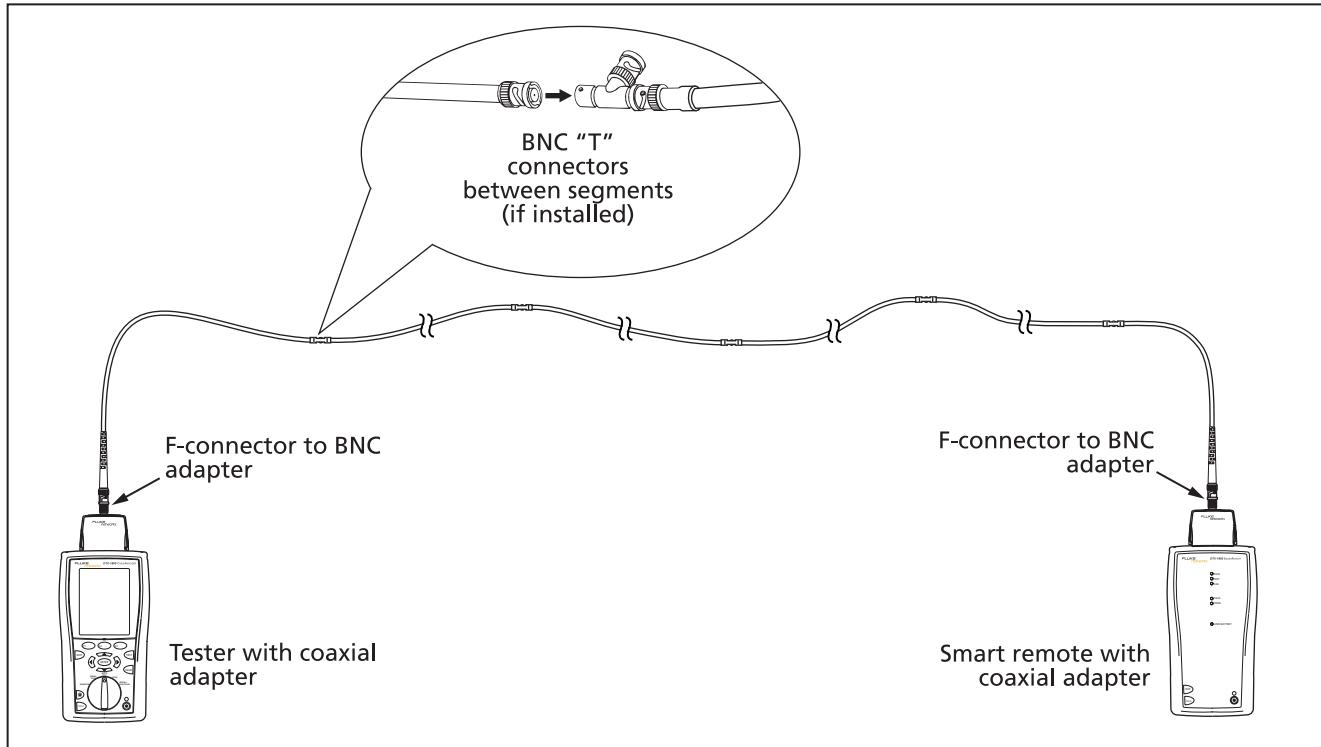

Figure 19. Coaxial Network Cabling Test Connections
- 3 Turn the rotary switch to **AUTOTEST** and turn on the smart remote. Connect to the cabling, as shown in Figure 19 or 20.